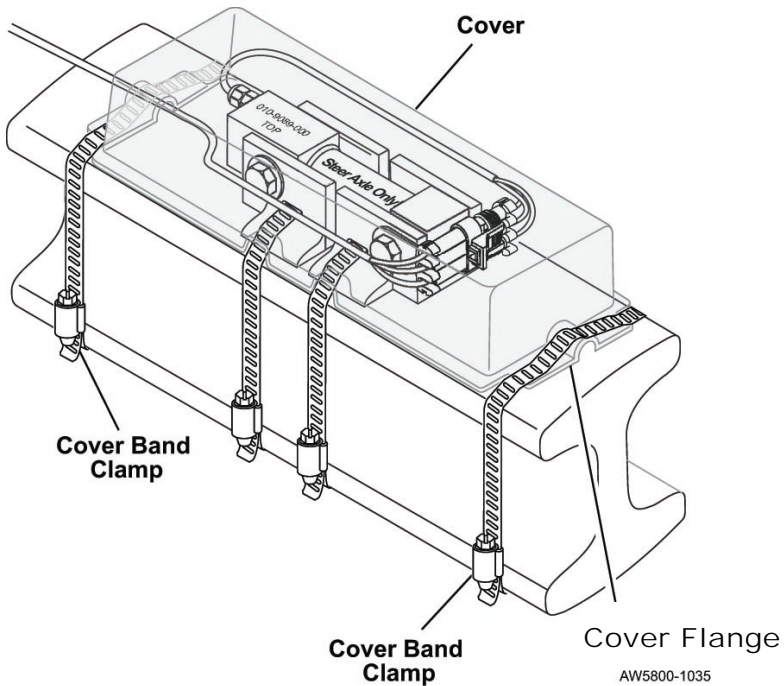

Figure 16. Attaching Band Clamps to Cover
3. Very loosely install band clamps (p/n: 139-0016-000) around the steer axle on both ends of the deflection sensor cover. Ensure that the band clamp on each side circles both the steer axle and the cover flange. See Figure 16.